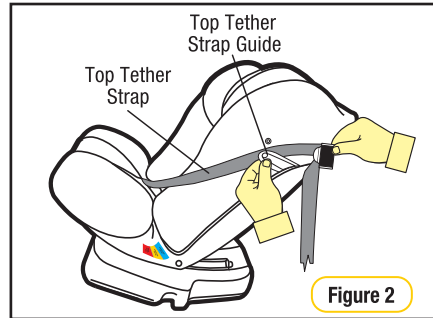

Figure 2
Step 2: Continue to extend until the adjuster has reached the desired location at the side of the restraint (refer Figure 2).